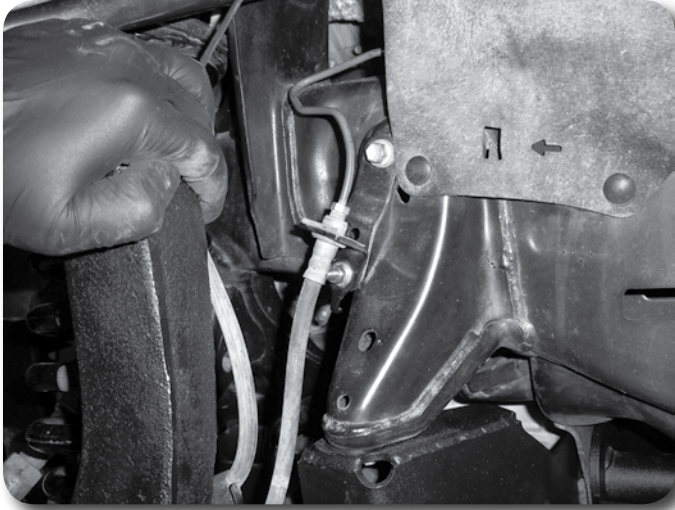

Figure 46
63. Carefully reform the brake hard line at the frame and attach the original brake line mount bracket to the stud on the relocation bracket **Figure 46**. Fasten with the provided 1/4" nut, flat washer and lock washer. Tighten hardware securely.